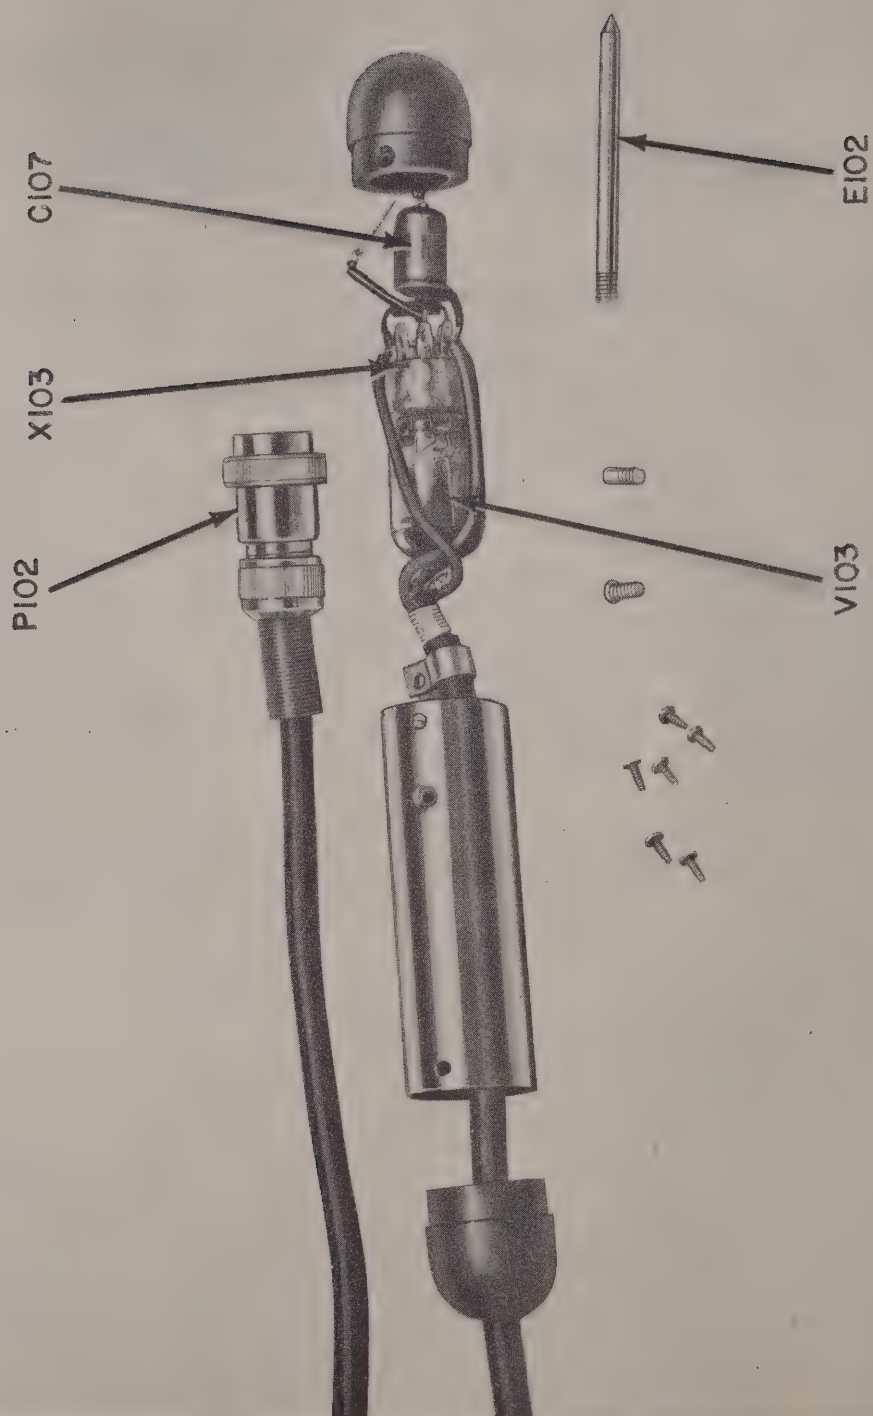

Figure 6-1. AC Probe, Cover Removed
- In case of failure of the type 6AL5 tube in the probe, it will be impossible to adjust the meter to zero for AC voltage measurements on the lower AC ranges. This tube is readily replaced by first removing the ground clamp screw and the three small screws at each end of the metal sleeving. Then the rear plug and metal sleeving may be moved back far enough to permit removal of the tube. Figure 6-1 is a view of the probe with the cover removed.